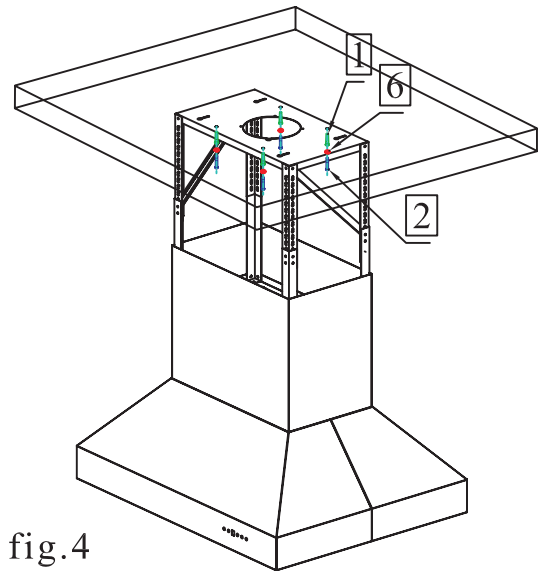

fig.4
**Step four:** Tighten the top mounting screws, securing the top mounting plate to the ceiling. fig 4.